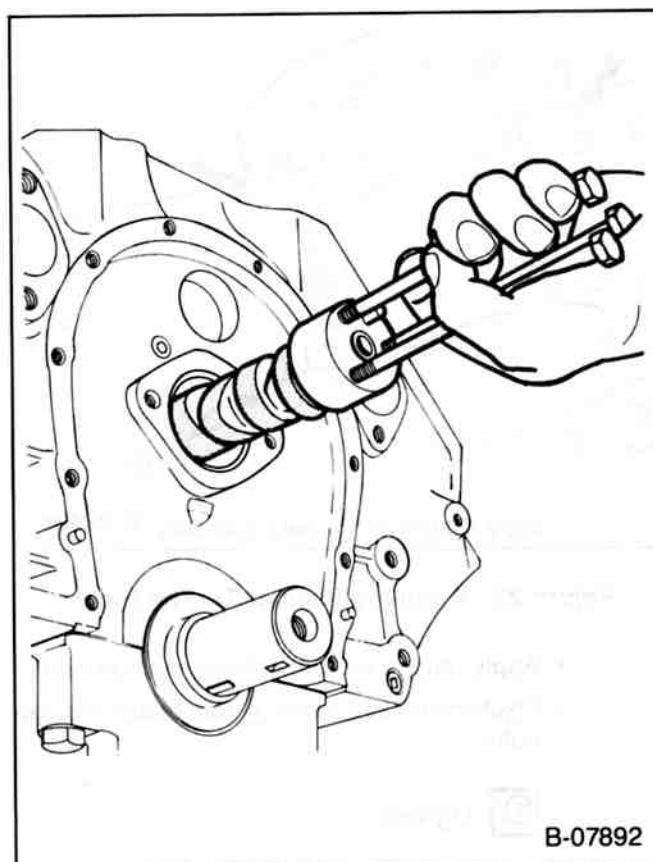

Figure 26—Replacing The Camshaft
- Install two or three $\frac{5}{16}$ -18 bolts 100–125 mm (4–5 inches) long into the camshaft threaded holes. Use these bolts to handle the camshaft (figure 26).
- 2. Camshaft to the engine (figure 26). Handle the camshaft carefully to prevent damage to the camshaft bearings.